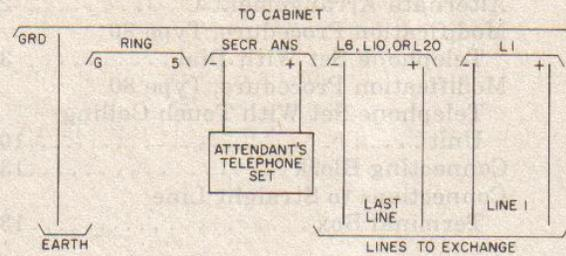

Figure 2. Connections for Attendant's Telephone Set, Alternate Arrangement A.
2.06 Alternate method A is used when the attendant has no line assigned to her own use, but answers calls for others. A standard telephone set (which need not be equipped with a ringer) is connected to the + and - Secr. Ans. terminals, as shown in Figure 2. With this arrangement, the line lamps and common audible signal provide indication of incoming calls on all lines. If the attendant's set is equipped with a bridged ringer, and the key of any line is left in the Answer position, the ringer will sound on incoming calls to that line, if no higher-numbered Answer key is operated.